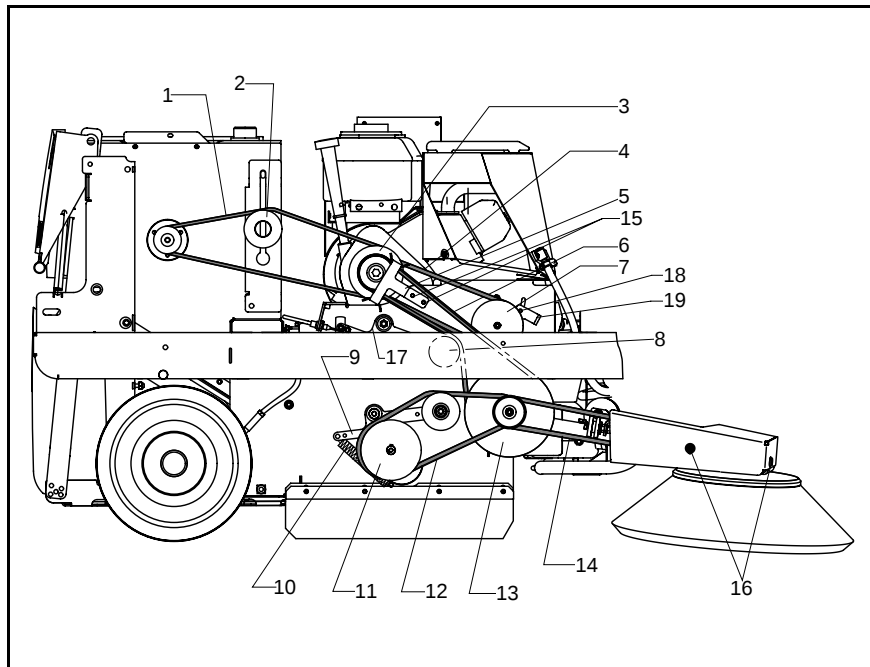

Fig. 25 V-belt drive Jonas 900 V
- Detent tensioning spring (Fig. 25/10) by left hand while taking the V-belt off the tensioning roller with right hand
- Remove V-belt (Fig. 25/12)
- Loosen screws (Fig. 25/16) at the cover plate and remove
- Push side brushes in direction of the machine to detent V-belt (Fig. 25/14)
- Remove V-belt (Fig. 25/14)
- Loosen hexagonal nuts (Fig. 25/15) and remove together with belt guide (Fig. 25/5)
- Use tensioning roller lever (Fig. 25/17) to detent V-belt (Fig. 25/6) and remove from V-belt pulley (Fig. 25/3)
- Loosen tensioning roller (Fig. 25/2) to detent V-belt (Fig. 25/1) and remove
V-belt (Fig. 25/4) then
(Fig. 25/2).**
- Loosen fillister head screw (Fig. 25/18)
- Detent V-belt (Fig. 25/4) by lever (Fig. 25/19) and remove